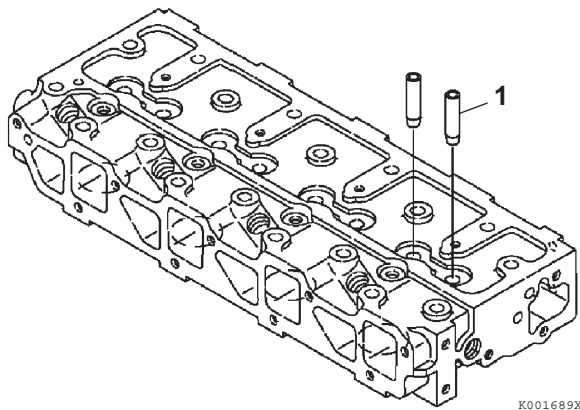

Figure 6-13
1. If the valve guides were not within specifications, use a drift pin and hammer to drive the valve guides (**Figure 6-13, (1)**) out of the cylinder head.